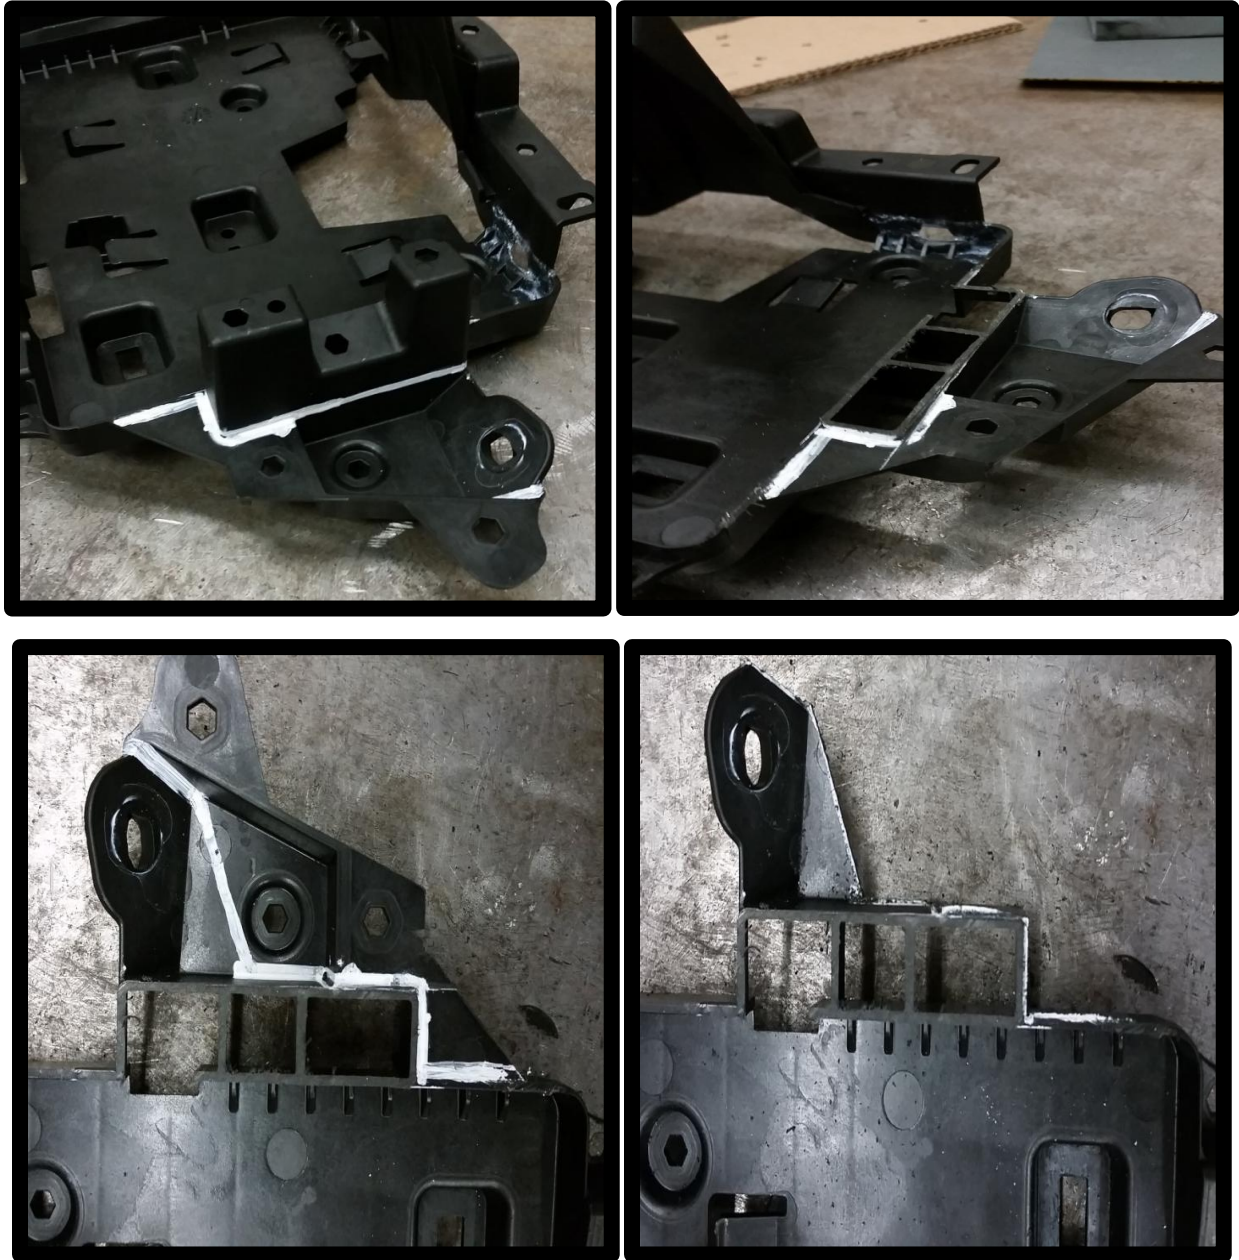

Figure 33: Trimming ECU Bracket
38. Remove part of the ECM plastic holder as shown in Figure 33 below. This will be for clearance of the intercooler outlet tube that will be installed later. The two cuts are shown below-removed from vehicle for clarity.